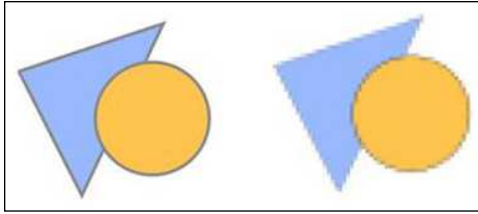

FIGURE 10-2: Magnified vector (left) and raster (right) graphics images
- They have *resolution* typically determined by the number of dots per inch (dpi). Making the image larger decreases its quality and may result in the image looking blurry, as shown in Figure 10-2.
- They can be made larger without any loss of quality, as shown in Figure 10-2.